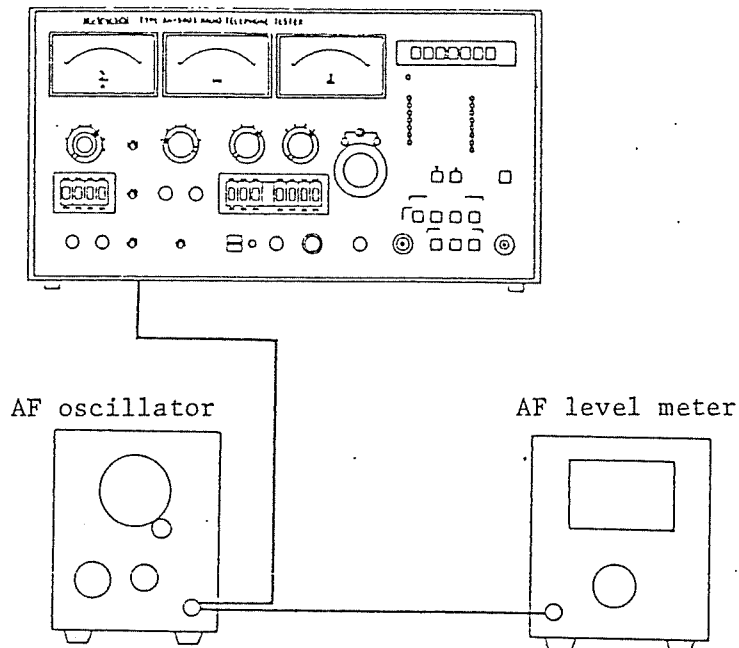

Fig. 3-18 Scale accuracy test
- (1) Connect a AF oscillator to the [INPUT] terminal of the [AF LEVEL METER] of this apparatus as shown in Fig. 3-18.